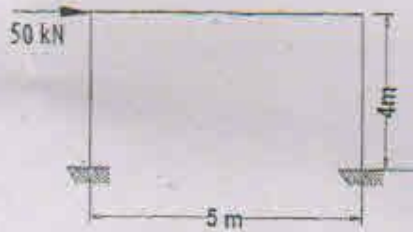

Figure 2
2. (a) Briefly explain how applied moment at a structural joint is distributed to various members depending on their relative stiffness. (5)
- (b) Using moment distribution method, analyze the portal frame shown in figure 2. All 10 the members have same flexural rigidity. (10)
5. (a) Establish the Global Stiffness Matrix of the Portal frame structure given in Figure 2. (10)